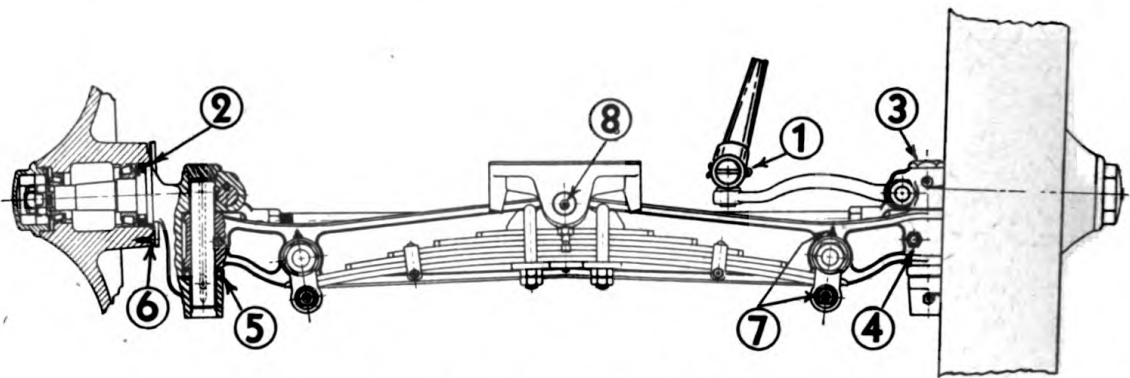

Fig. 41. Front Axle Steering Spindle and Drag Link
To take up lost motion due to wear in drag link, remove cotter pin 1, Fig. 41, and turn cap to the right and relock with cotter pin.
When king pin is driven out, the spindle and thrust bearing (5), Fig. 41, can be removed.